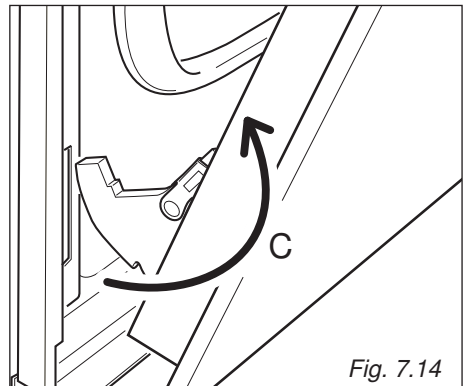

Fig. 7.14
- Withdraw the hinge hooks from their location following arrow "C" (fig. 7.14).